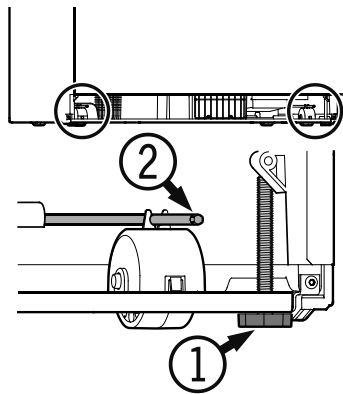

Figure 19
## Leveling the Appliance - Figure 19
To prevent the appliance from tipping forward the leveling feet (1) (Figure 19) must have contact with the floor.